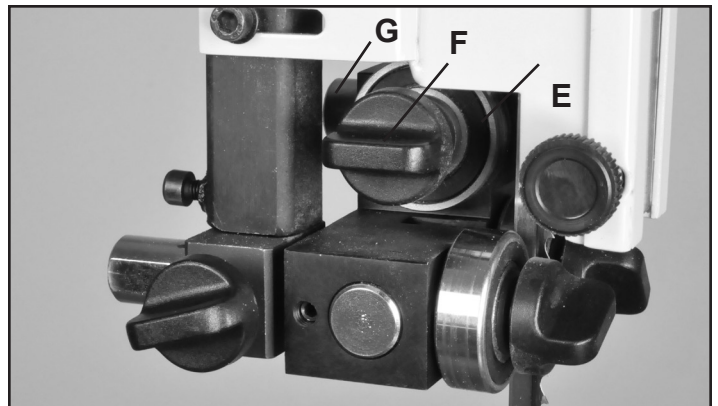

FIGURE 9
4. Adjust the rear bearing guide (Fig. 9, E) to be just clear of the back of the saw blade. Release the guide's Locking Handle (F) and move the rear guide towards the blade by pushing the end of the Rear Guide Shaft (G). Tighten the handle when done. Fig. 9